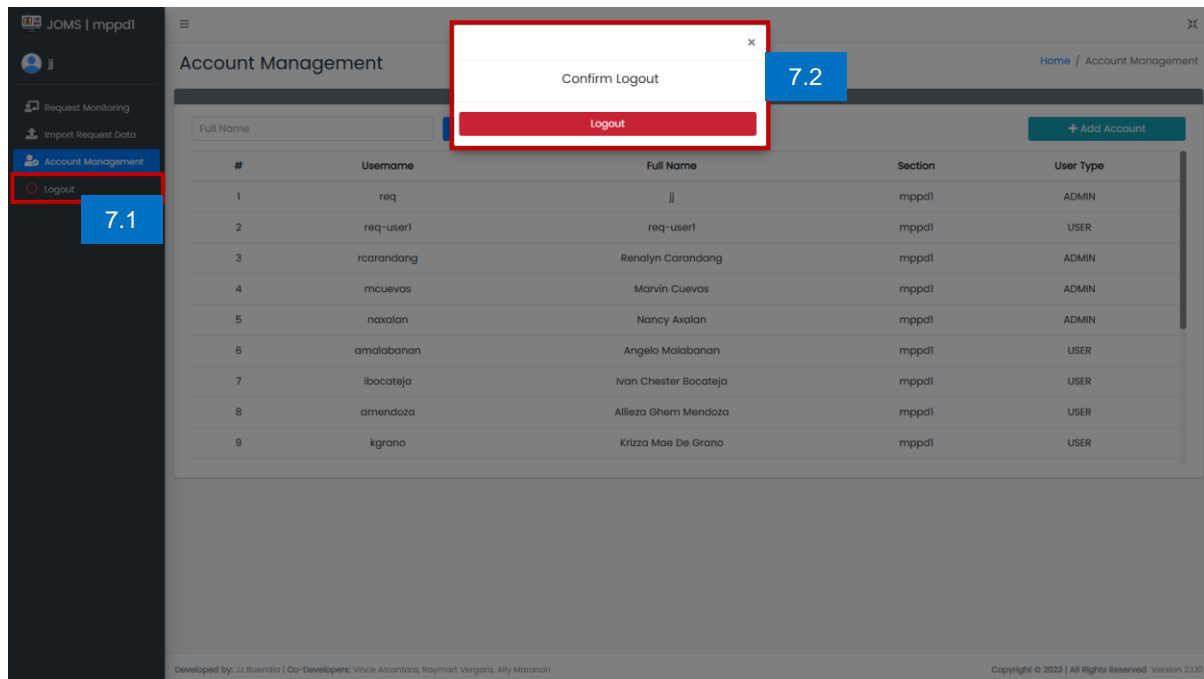

Figure 10. Logout
7.1 Click Logout. (See Figure 10)
7.2 Shows the message box. Click Logout button. Do not forget to logout when not using the system. (See Figure 10)